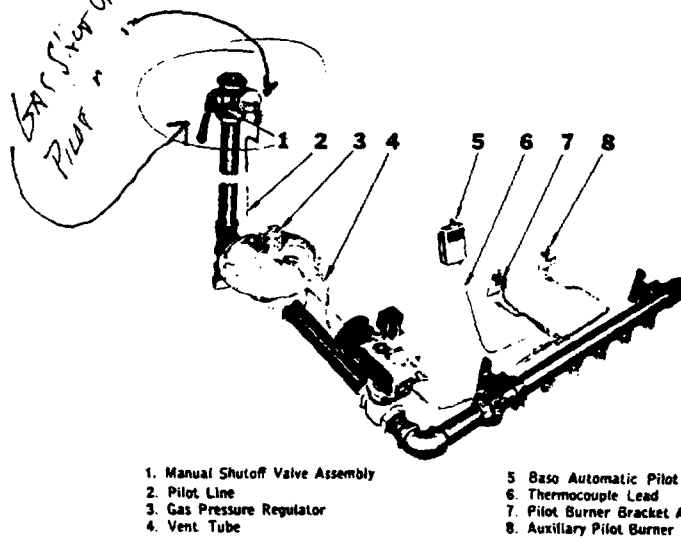

FIG. 16—Control Connections
1. Connect pilot line from manual shutoff valve, Fig. 15, to union in line to pilot burner. See Fig. 16.